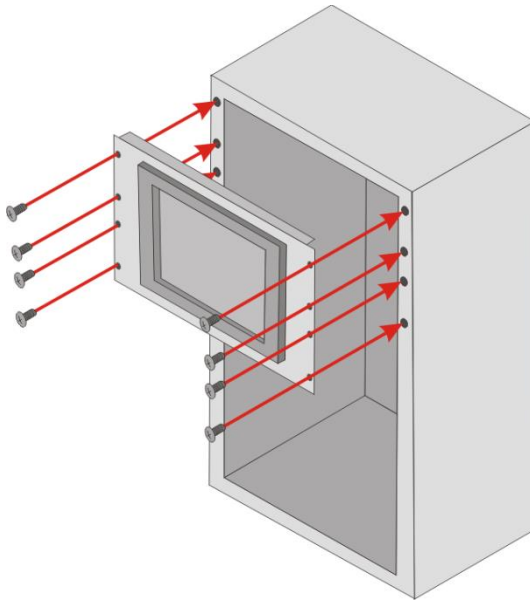

Figure 3-15: Install into a Rack/Cabinet
Step 6: Slide the panel PC with the attached rack/cabinet bracket into a rack or cabinet (Figure 3-15).
Step 7: Once the panel PC with the attached rack/cabinet bracket has been properly inserted into the rack or cabinet, secure the front of the rack/cabinet bracket to the front of the rack or cabinet (**Figure 3-15**).